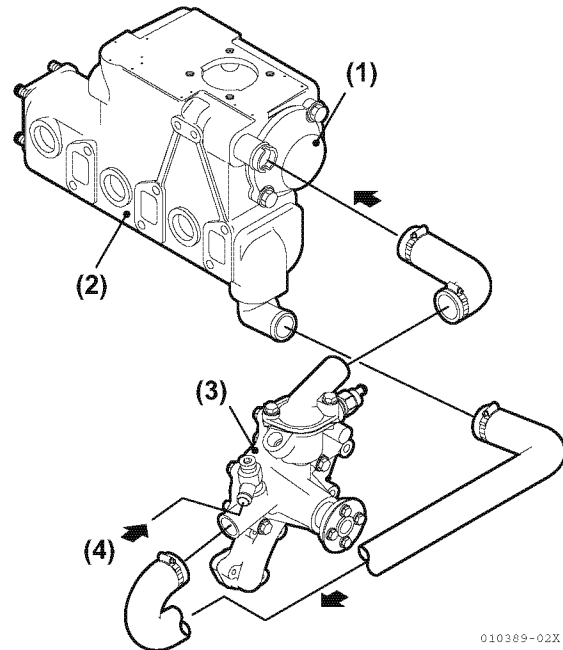
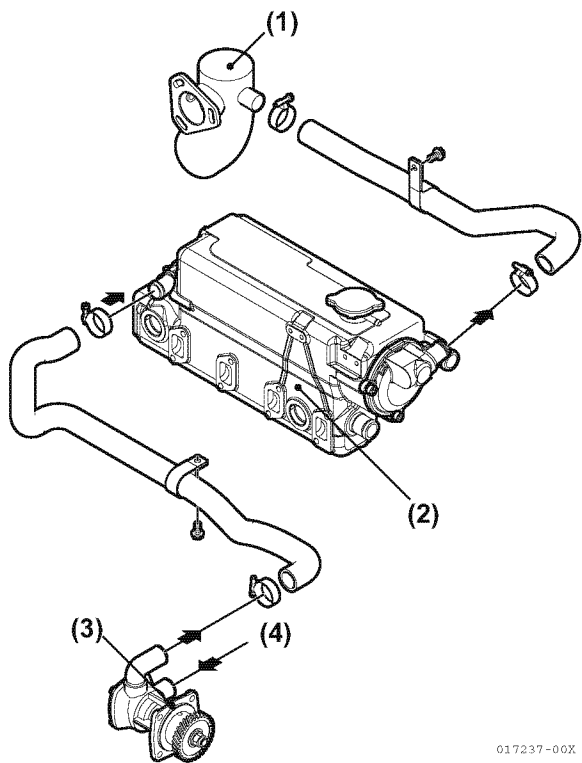

Figure 5-22
Figure 5-25
20. Remove the coolant pipe (seawater / freshwater) (Figure 5-22) through (Figure 5-25):
21. Remove the heat exchanger and gasket packing (Figure 5-25).